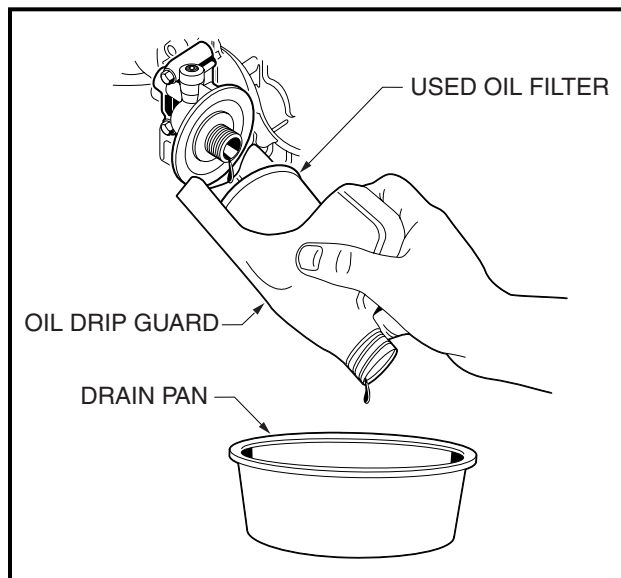

Figure 10-7 Remove Engine Oil Filter
**NOTE:** An oil drip guard can be used to prevent excess oil from dripping into the engine base plate. Use an empty quart or 1 liter container and cut the bottom off at an angle, then slide the open area of the container up and under the oil filter prior to removing. Position the port of the plastic container so oil will be directed into the oil pan (Figure 10-7, Page 10-6). Or, make a drip guard by folding a piece of cardboard, thin metal, or plastic under the oil filter forming a channel to direct the filter port oil into the drain pan.